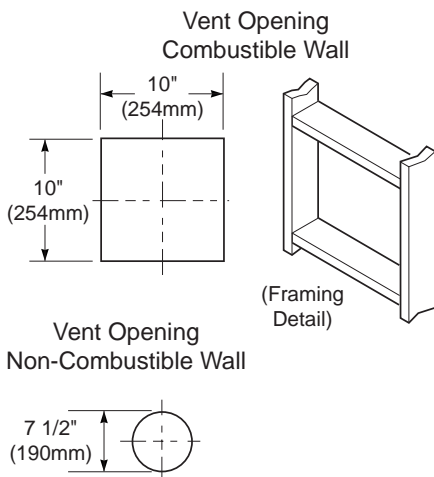
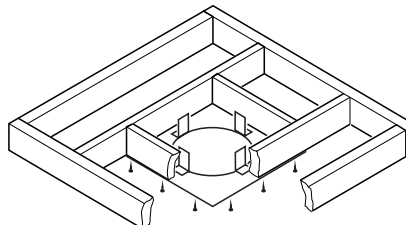

Figure 17 - Vent Opening Requirements
Figure 25 - Installing Firestop
- Attach vent pipe assembly to the fireplace. Set fireplace in front of its permanent location to insure minimum clearances. Mark the wall for a 10" square hole (for noncombustible material such as masonry block or concrete, a 7 1/2" diameter hole is acceptable). See Figure 17. The center of the hole should line up with the centerline of the horizontal rigid vent pipe. Cut a 10"x10" (254mm x 254mm) square hole through combustible exterior wall (7 1/2" [190mm] diameter hole if noncombustible). Frame as necessary (see Figure 17).
- Cut a 10" square hole in the ceiling using the locating hole as a center point. The opening should be framed to 10"x10" (254mm x 254mm) inside dimensions, as shown in Figure 17 on page 9 using framing lumber the same size as the ceiling joists. If the area above the ceiling is an insulated ceiling or a room, nail firestop from the top side. This prevents loose insulation from falling into the required clearance space. Otherwise, install firestop below the framed hole. The firestop should be installed with no less than three nails per side (see Figure 25).
- Cut a hole in the roof using the locating hole as a center point. (Cover any exposed open vent pipes before cutting hole in roof.) The 10"x10" hole must be measured on the horizontal; actual length may be larger depending on the pitch of the roof. There must be a 1" clearance from the vent pipe to combustible materials. Frame the opening as shown in Figure 17 on page 9.